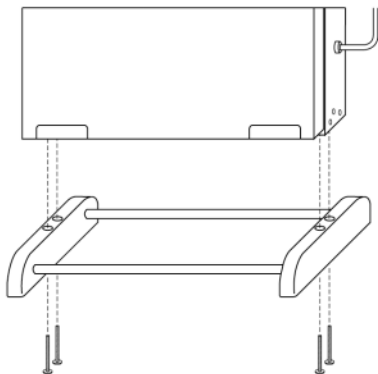

FIGURE 1
2. Attach Foot Base to bottom of unit. To do this, line up four holes in Foot Base with four holes on bottom of unit. Slide 1 large screw through each of the four holes, and tighten them securely into place using Allen wrench (FIGURE 1).